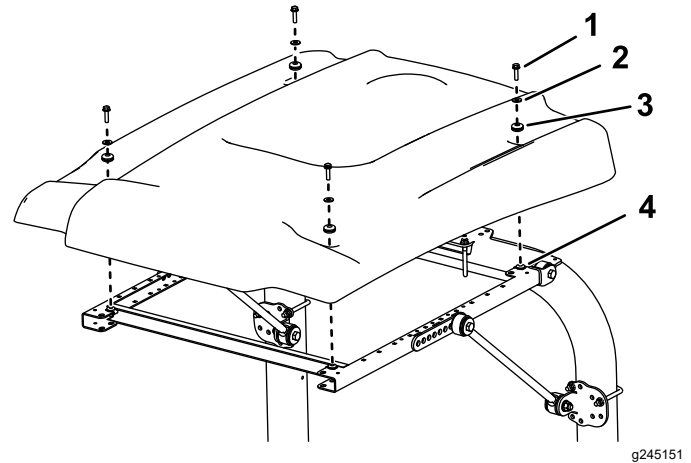

Figure 14
16. While aligning the mounting holes, position the sunshade onto the frame as shown in Figure 14.
17. Loosely mount each corner of the sunshade to the frame with a flange-head bolt (5/16 x 1-1/4 inches), a small washer, and a grommet (Figure 14).